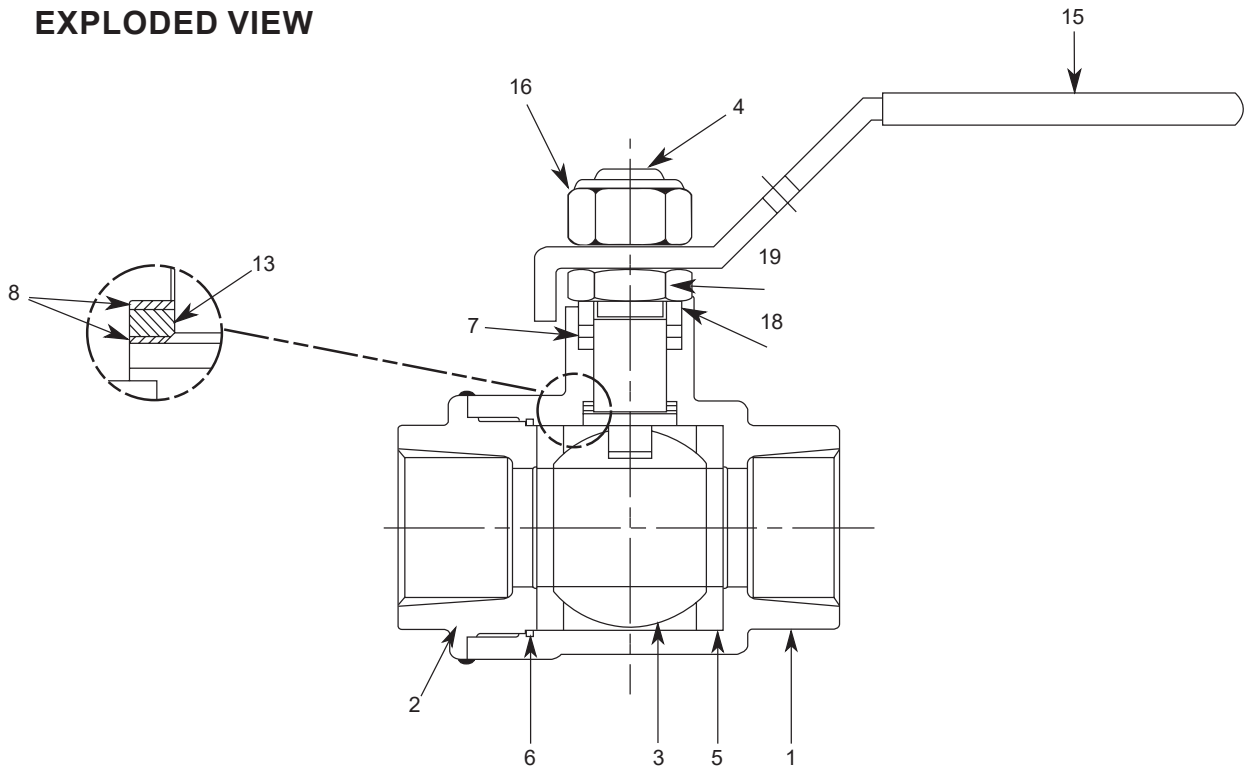

Figure 6.
- c. From **Figure 6**, the ballooned part number, part name and quantity required.